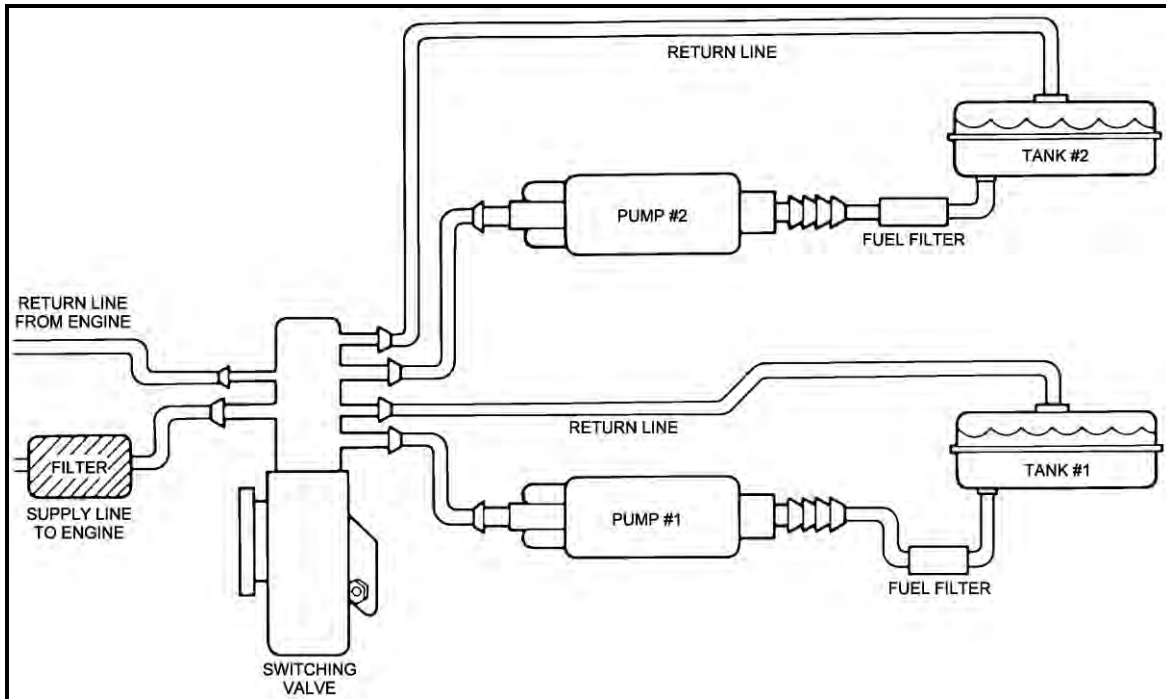

Figure 6
1. Mount the selection valve in a protected location close to the existing fuel lines and near the fuel tanks. Position the valve so the side with the four hose nipples points toward the fuel tanks. Mount the fuel pumps along the fuel supply lines and next to each fuel tank. Fuel filters (Holley Part Number 562-3) MUST be located between each tank and pump. Make sure pump inlets point toward the tanks. (See Figure 6).